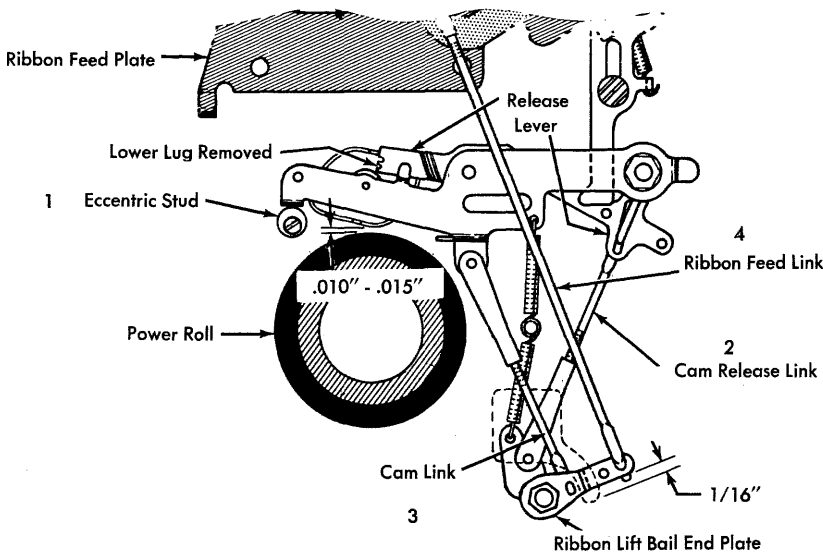

Figure 48. Ribbon Feed Adjustments
frame and may be reached through an opening in the power roll drive pulley (Figure 48).
2. Adjust the cam release link so that the ribbon cam is released when any type face is $\frac{3}{4} \pm \frac{1}{8}$ from the platen (Figure 48). A variation in the tripping point between different type bars may be an indication that the vane on top of the ribbon lift bail is curved.
3. Adjust the link from the cam to the ribbon lift bail end plate so that the bail end plate is $\frac{1}{16}$ above the bottom of the slot in the side frame (Figure 48). Make this adjustment by disconnecting the link and turning the clevis with a spring hook, reaching down through the side frame of the machine.